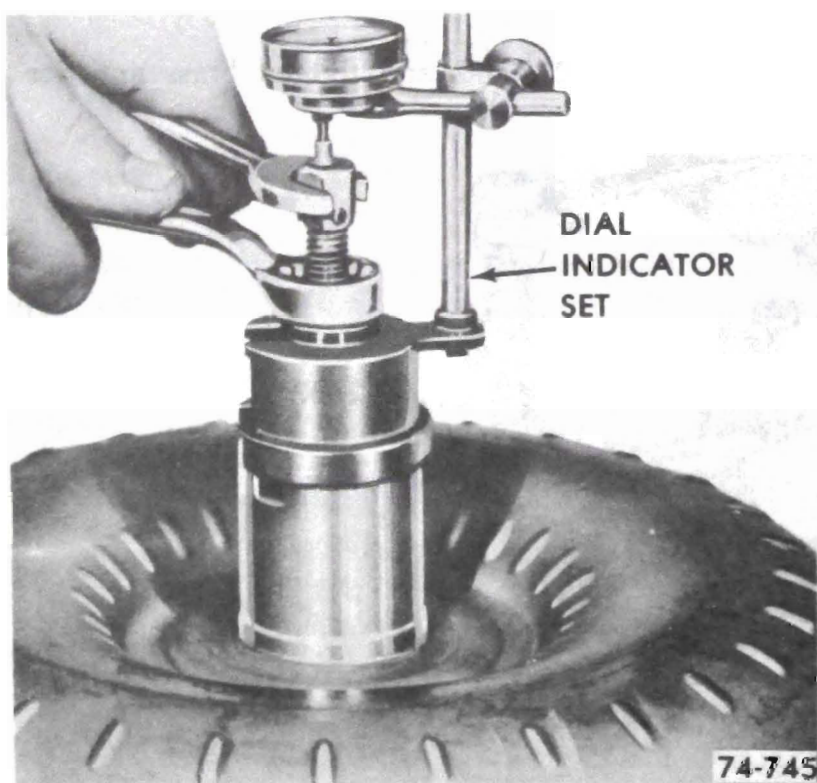

Figure 76-240
c. Install dial indicator set at 0 as shown in Figure 76-240.
d. Loosen hex nut. When nut is fully loosened the reading obtained on the dial indicator will be converter end clearance. If clearance is .050" or over and the oil has the appearance of having been mixed with aluminum paint, replace the converter. See Figure 76-240.